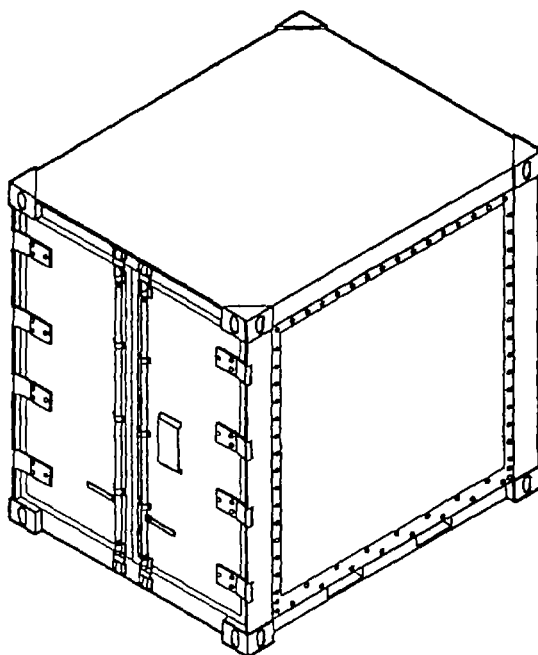

Figure 1-10. Tricon
- (13) **TRICON (Figure 1-10).** Provides for system components storage. Refer to applicable technical manual for operation and maintenance procedures.